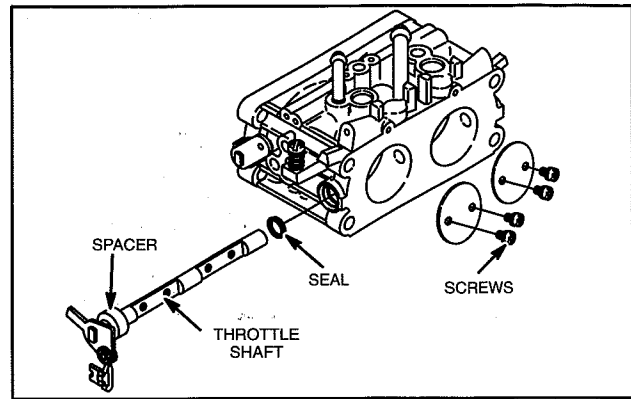

Fig. 48 – Remove Throttle Shaft
10. Remove throttle shaft, spacer and seal, Fig. 48.